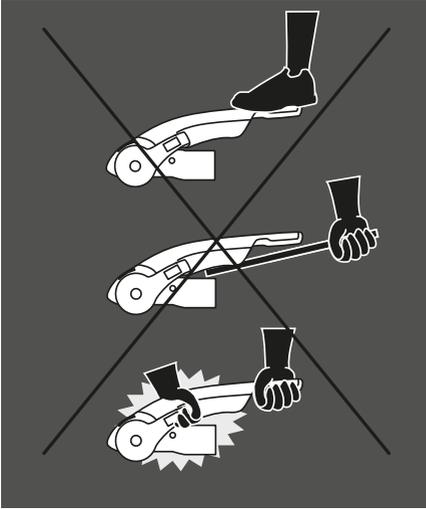

Figure 11 - How not to operate the stabiliser handle
2. Press stabiliser lever down by hand force only. DO NOT use your foot or an extension bar, this will damage the components (Fig 11).
- When opening or closing the stabiliser lever, please ensure your hand does not touch the coupling handle - you may accidentally trap your fingers (Fig 11).